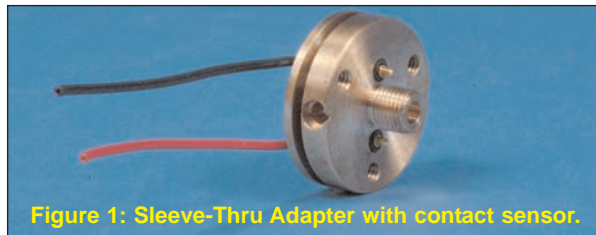
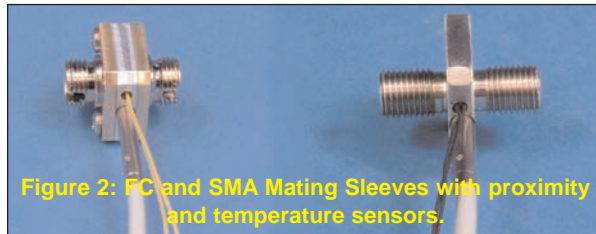

Figure 1: Sleeve-Thru Adapter with contact sensor.
Figure 2: FC and SMA Mating Sleeves with proximity and temperature sensors.
1. A customer is using FC or SMA mating sleeve to butt-couple 2 high power multimode fibers terminated with appropriate connectors. A sensor that is installed at the appropriate point in the FC or SMA mating sleeve will be able detect the presence or absence of a connector metal ferrule. Thus, in case an operator unwittingly removes one of the high power fiber patchcords by unscrewing the FC or SMA connector, the sensor signal can be used by the customer to trigger a safety interlock or shut down of the laser. In addition, if a thermocouple or a thermistor has also been installed in the mating sleeve, and there has been some damage to one of the connectorized fiber endfaces that is causing light to reflect into the mating sleeve leading to local temperature rise, the signals from the thermistor or the thermocouple can be used to alert the operator and/or initiate a safety interlock at the laser or laser shut down. Figure 1 shows an SMA sleeve-thru adapter with contact style sensor for fiber connector proving. Figures 2 and 3 show SMA and FC mating sleeves in which both the inductive proximity and temperature sensors have been installed.
- FC and SMA Sleeve-through adapters (mating sleeves) for multimode fiber to fiber coupling situations- See Figures 1 and 2